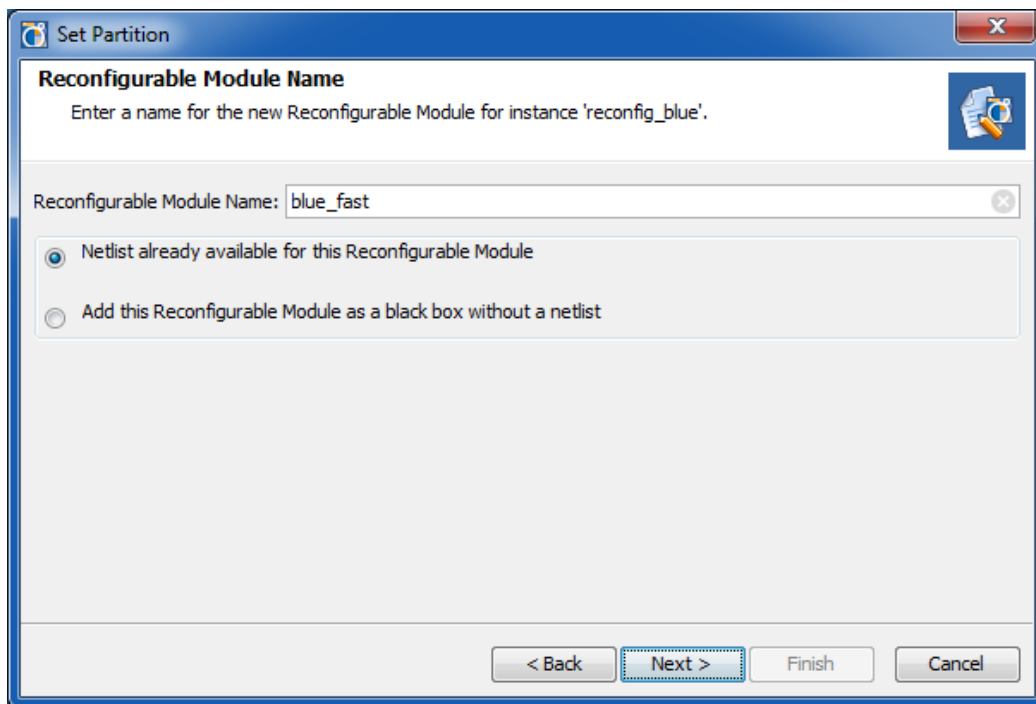

Figure 4-7: Naming the Reconfigurable Module
3. The Reconfigurable Partition can have netlists for a Reconfigurable Module loaded or can optionally be defined as a black box module. In this case we will add the netlist for the fast variant of the blue module. Enter a unique name for the Reconfigurable Module that corresponds to the module variant to be selected as shown in Figure 4-7.